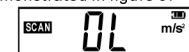

Fig. 5
5. When the measured value is beyond the measurement range, LCD will demonstrate "OL" (overflow). It is demonstrated in figure 5.